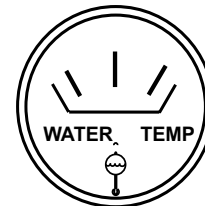

Figure 61. Coolant Temperature Gauge
17. The coolant temperature gauge (Figure 61) will indicate the coolant temperature. Under normal operating conditions the coolant temperature is between 165 and 215 degrees Fahrenheit.